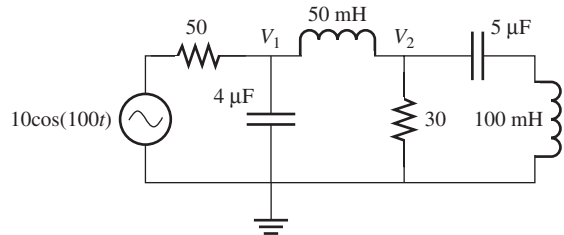

FIGURE P6.41 Circuit for Problem 6.41.
6.41 (A) Find the steady-state expressions for V_1 and V_2 in Figure P6.41.
- 6.74** (H) In Figure P6.41, use PSpice to plot V_1 and V_2 .